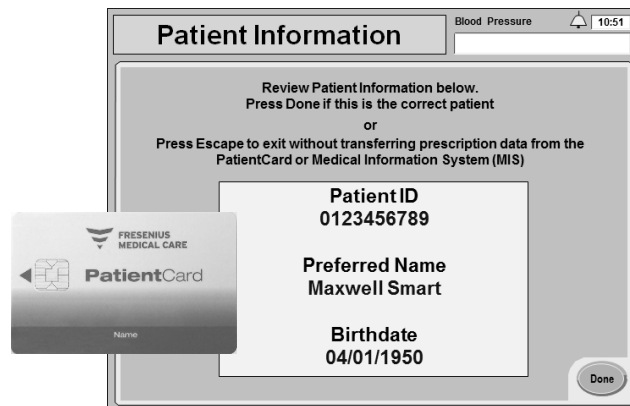

Figure 19
46. After the data saving is complete, verify that the PatientCard is read and the correct Patient ID, First Name, Last Name and Birthdate is displayed on the Patient Information screen (Figure 19).